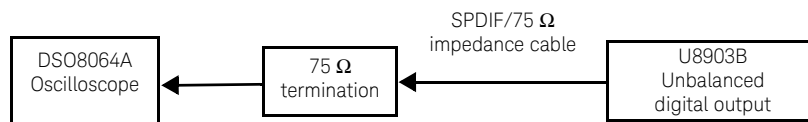

Figure 4-6 DSO8064A oscilloscope to U8903B unbalanced digital output for unbalanced output level accuracy verification
- 1 Connect the Keysight DSO8064A oscilloscope input channel 1 to the U8903B unbalanced digital output channel with the $75\ \Omega$ termination using the SPDIF/ $75\ \Omega$ impedance cable as shown in **Figure 4-6**.